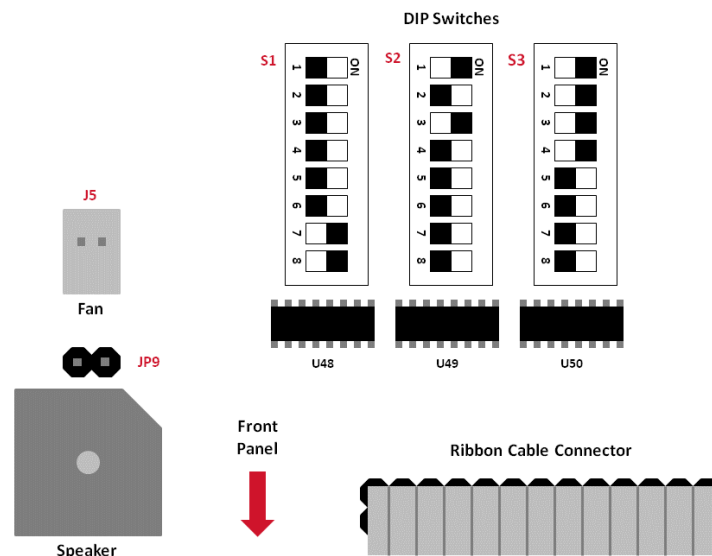

Figure 3. DIP switch and JP9 jumper location
6. Locate DIP Switch S1 (see **Figure 3**)
13. Locate DIP Switch S1-1 for CHANNEL 1 (see **Figure 3** on page 12)
6. Locate DIP Switch S1-2 (see **Figure 3** on page 12)
6. Locate JP9 jumper (see **Figure 3** on page 12)